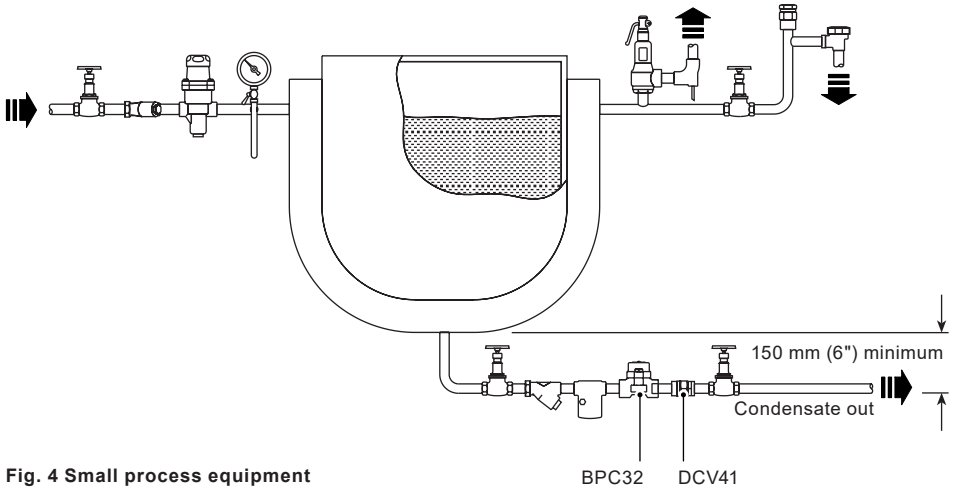

Fig. 4 Small process equipment
- 3.4** The trap is designed for installation in any position, horizontal or vertical, preferably with a drop leg immediately preceding the trap - typically 150 mm (6") see Figure 4.
Use a suitable valve such as the Spirax Sarco DCV41, see Figure 4.